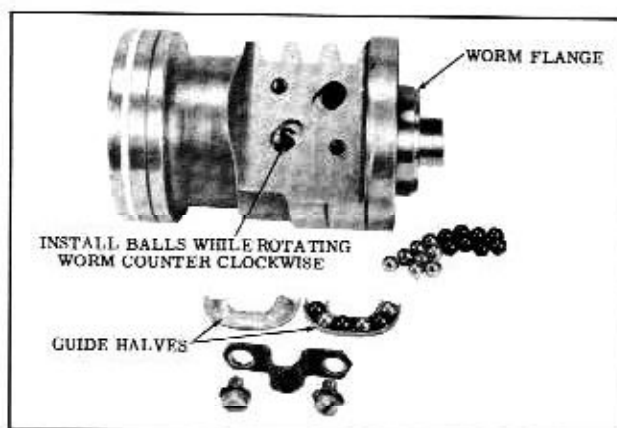

Fig. 4-58 Installing Balls
3. Turn the worm until the worm groove is aligned with the lower ball return guide hole. (Fig. 4-58)